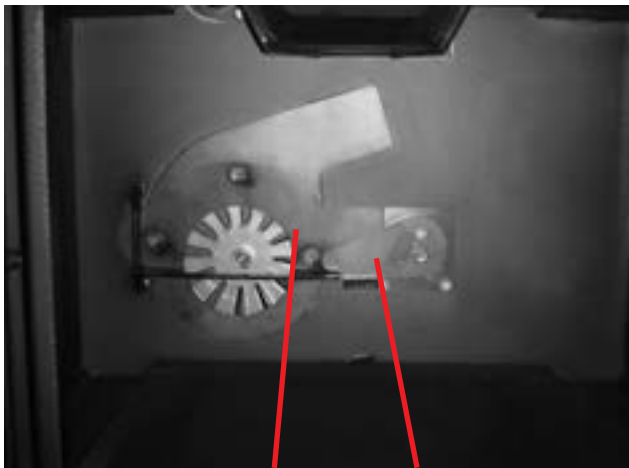
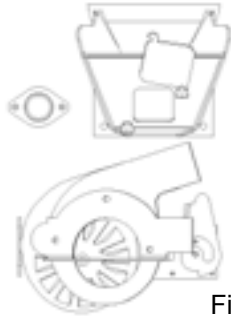

Fig. 24 *Combustion Blower Cover* *Blower Cover Latch*
Fig. 27
3. Remove combustion blower cover by turning the latch vertical as shown in Fig.26 and sliding the cover out of the slot on the left (Fig.27.) This will expose the combustion blower wheel and flue outlet, (Fig.24.)